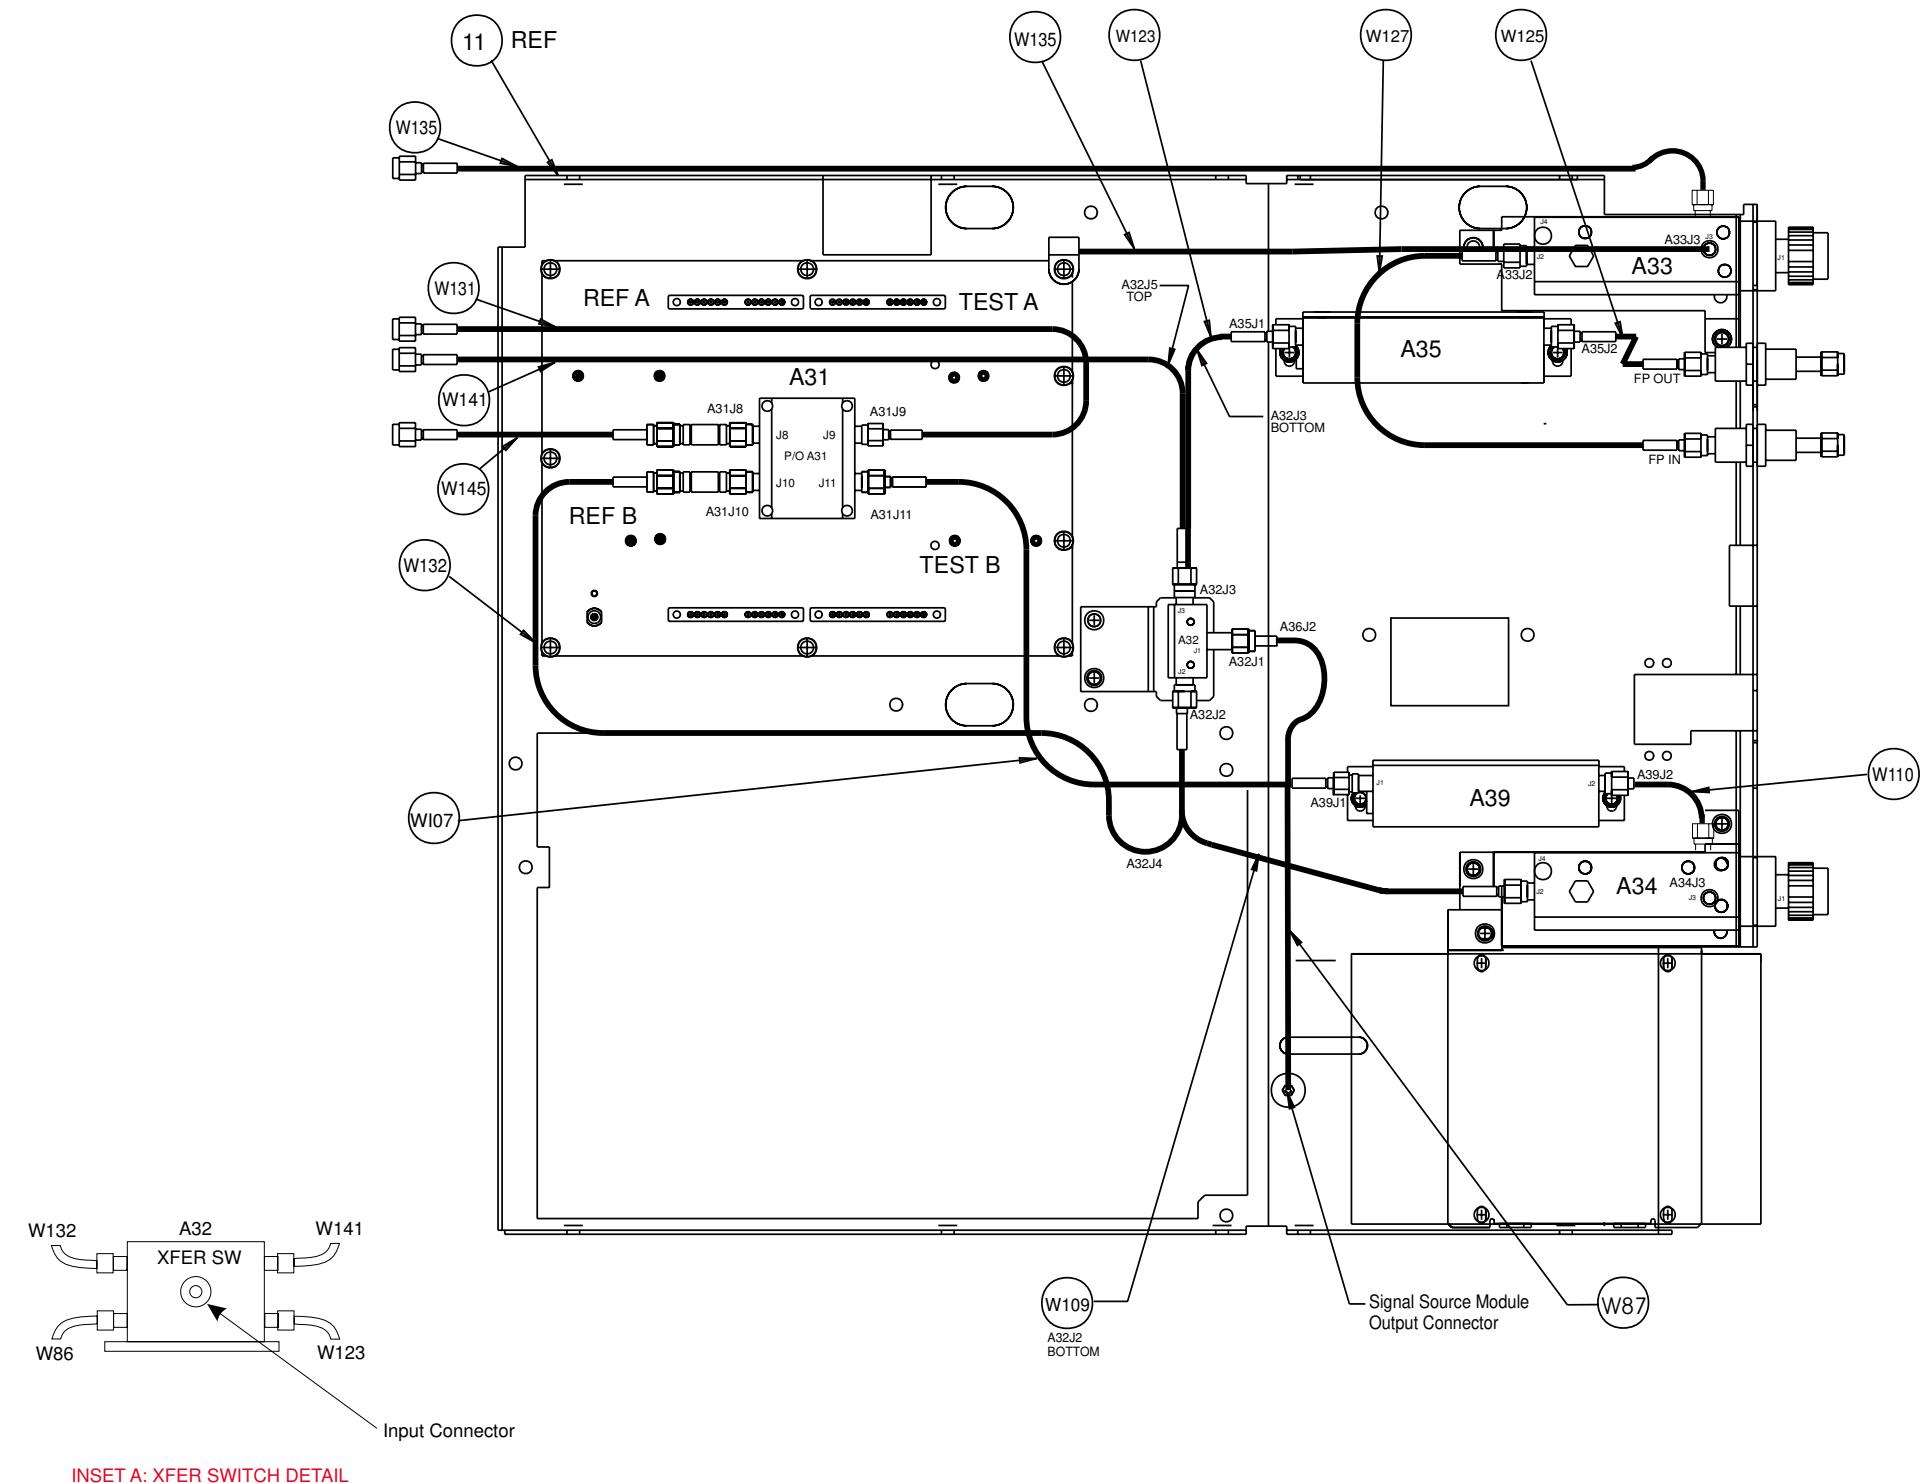

Figure 8-11. Test Set Module Components Layout Diagram
- Using a $\frac{5}{16}$ in. wrench, disconnect the semi-rigid coaxial lines W141 and W145 at the inside of the rear panel. See Figure 8-11 on page 8-23.
Step 1. For all models except 37269B: disconnect the semi-rigid coaxial line W87 from the input connector of the Transfer Switch. See Figure 8-11.
Step 3. Carefully flex (do **not** bend) the rigid-coaxial lines to gain access to the lower connectors of the Transfer Switch; see Inset A on Figure 8-11. Remove rigid-coaxial lines from these connectors.
- Step 2. Disconnect the two semi-rigid coaxial lines associated with the coupler/bridge (see Figure 8-11).
- Step 2. At J2 on the motherboard PCB, disconnect the Floppy Control (ribbon) cable that goes to the floppy drive. Dress the ribbon cable away from the Signal Source Module output connector; see Figure 8-11.